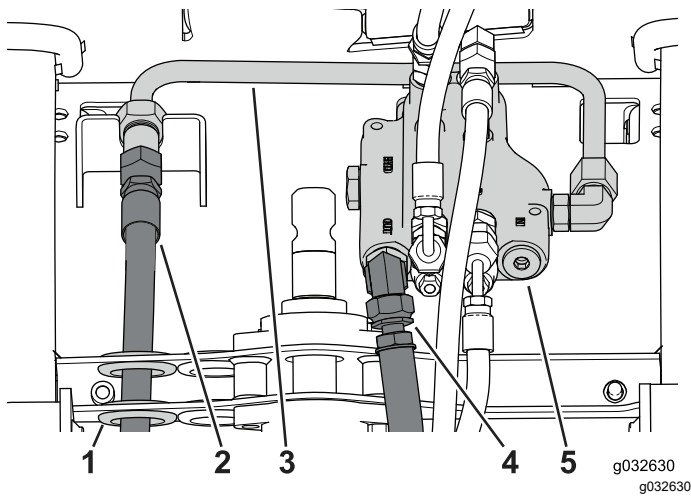

Figure 82
5. Route the supply hose through the grommet and connect it to the tube connector (Figure 82).
6. Connect the return hose to the control valve (Figure 82).